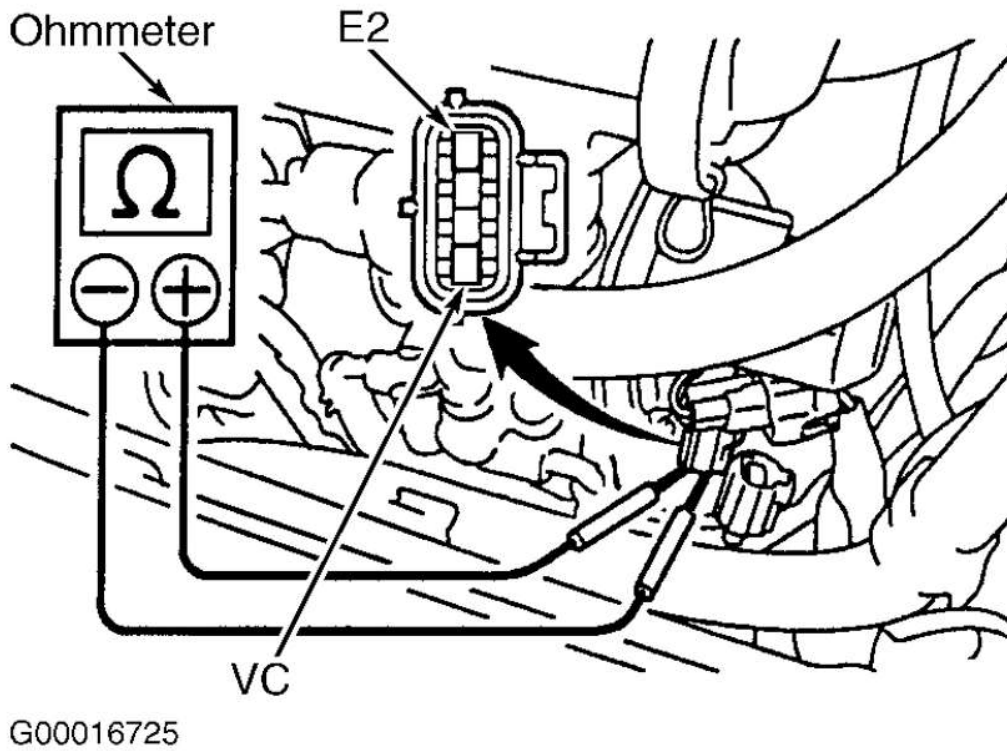

Fig. 58: Identifying Throttle Position Sensor Terminals (Prius)
1. Manufacturer does not list procedure for Throttle Position (TP) sensor adjustment. Only information available is for checking resistance of TP sensor.
2. Disconnect electrical connector from TP sensor. Note electrical terminals on TP sensor. See **Fig. 58** . Using ohmmeter, check resistance between VC and E2 terminals on TP sensor. Replace TP sensor if resistance is not within specification. See **THROTTLE POSITION SENSOR RESISTANCE** table.